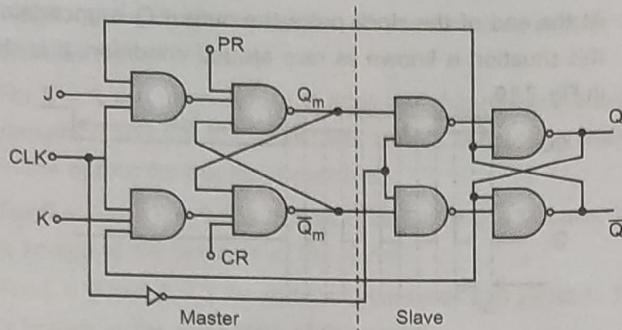

Fig. 3.21 : Master slave JK flip flop
- Master slave JK flip flop is a cascade of two S-R flip flops as shown in Fig. 3.21.
- As shown in Fig. 3.21, outputs of slave are fed back to the inputs of master. Also, clock is directly applied to the master while it is inverted and then applied to the slave.
- The state of the master slave JK flip flop shown in Fig. 3.21, changes at the negative transition of the clock pulse.